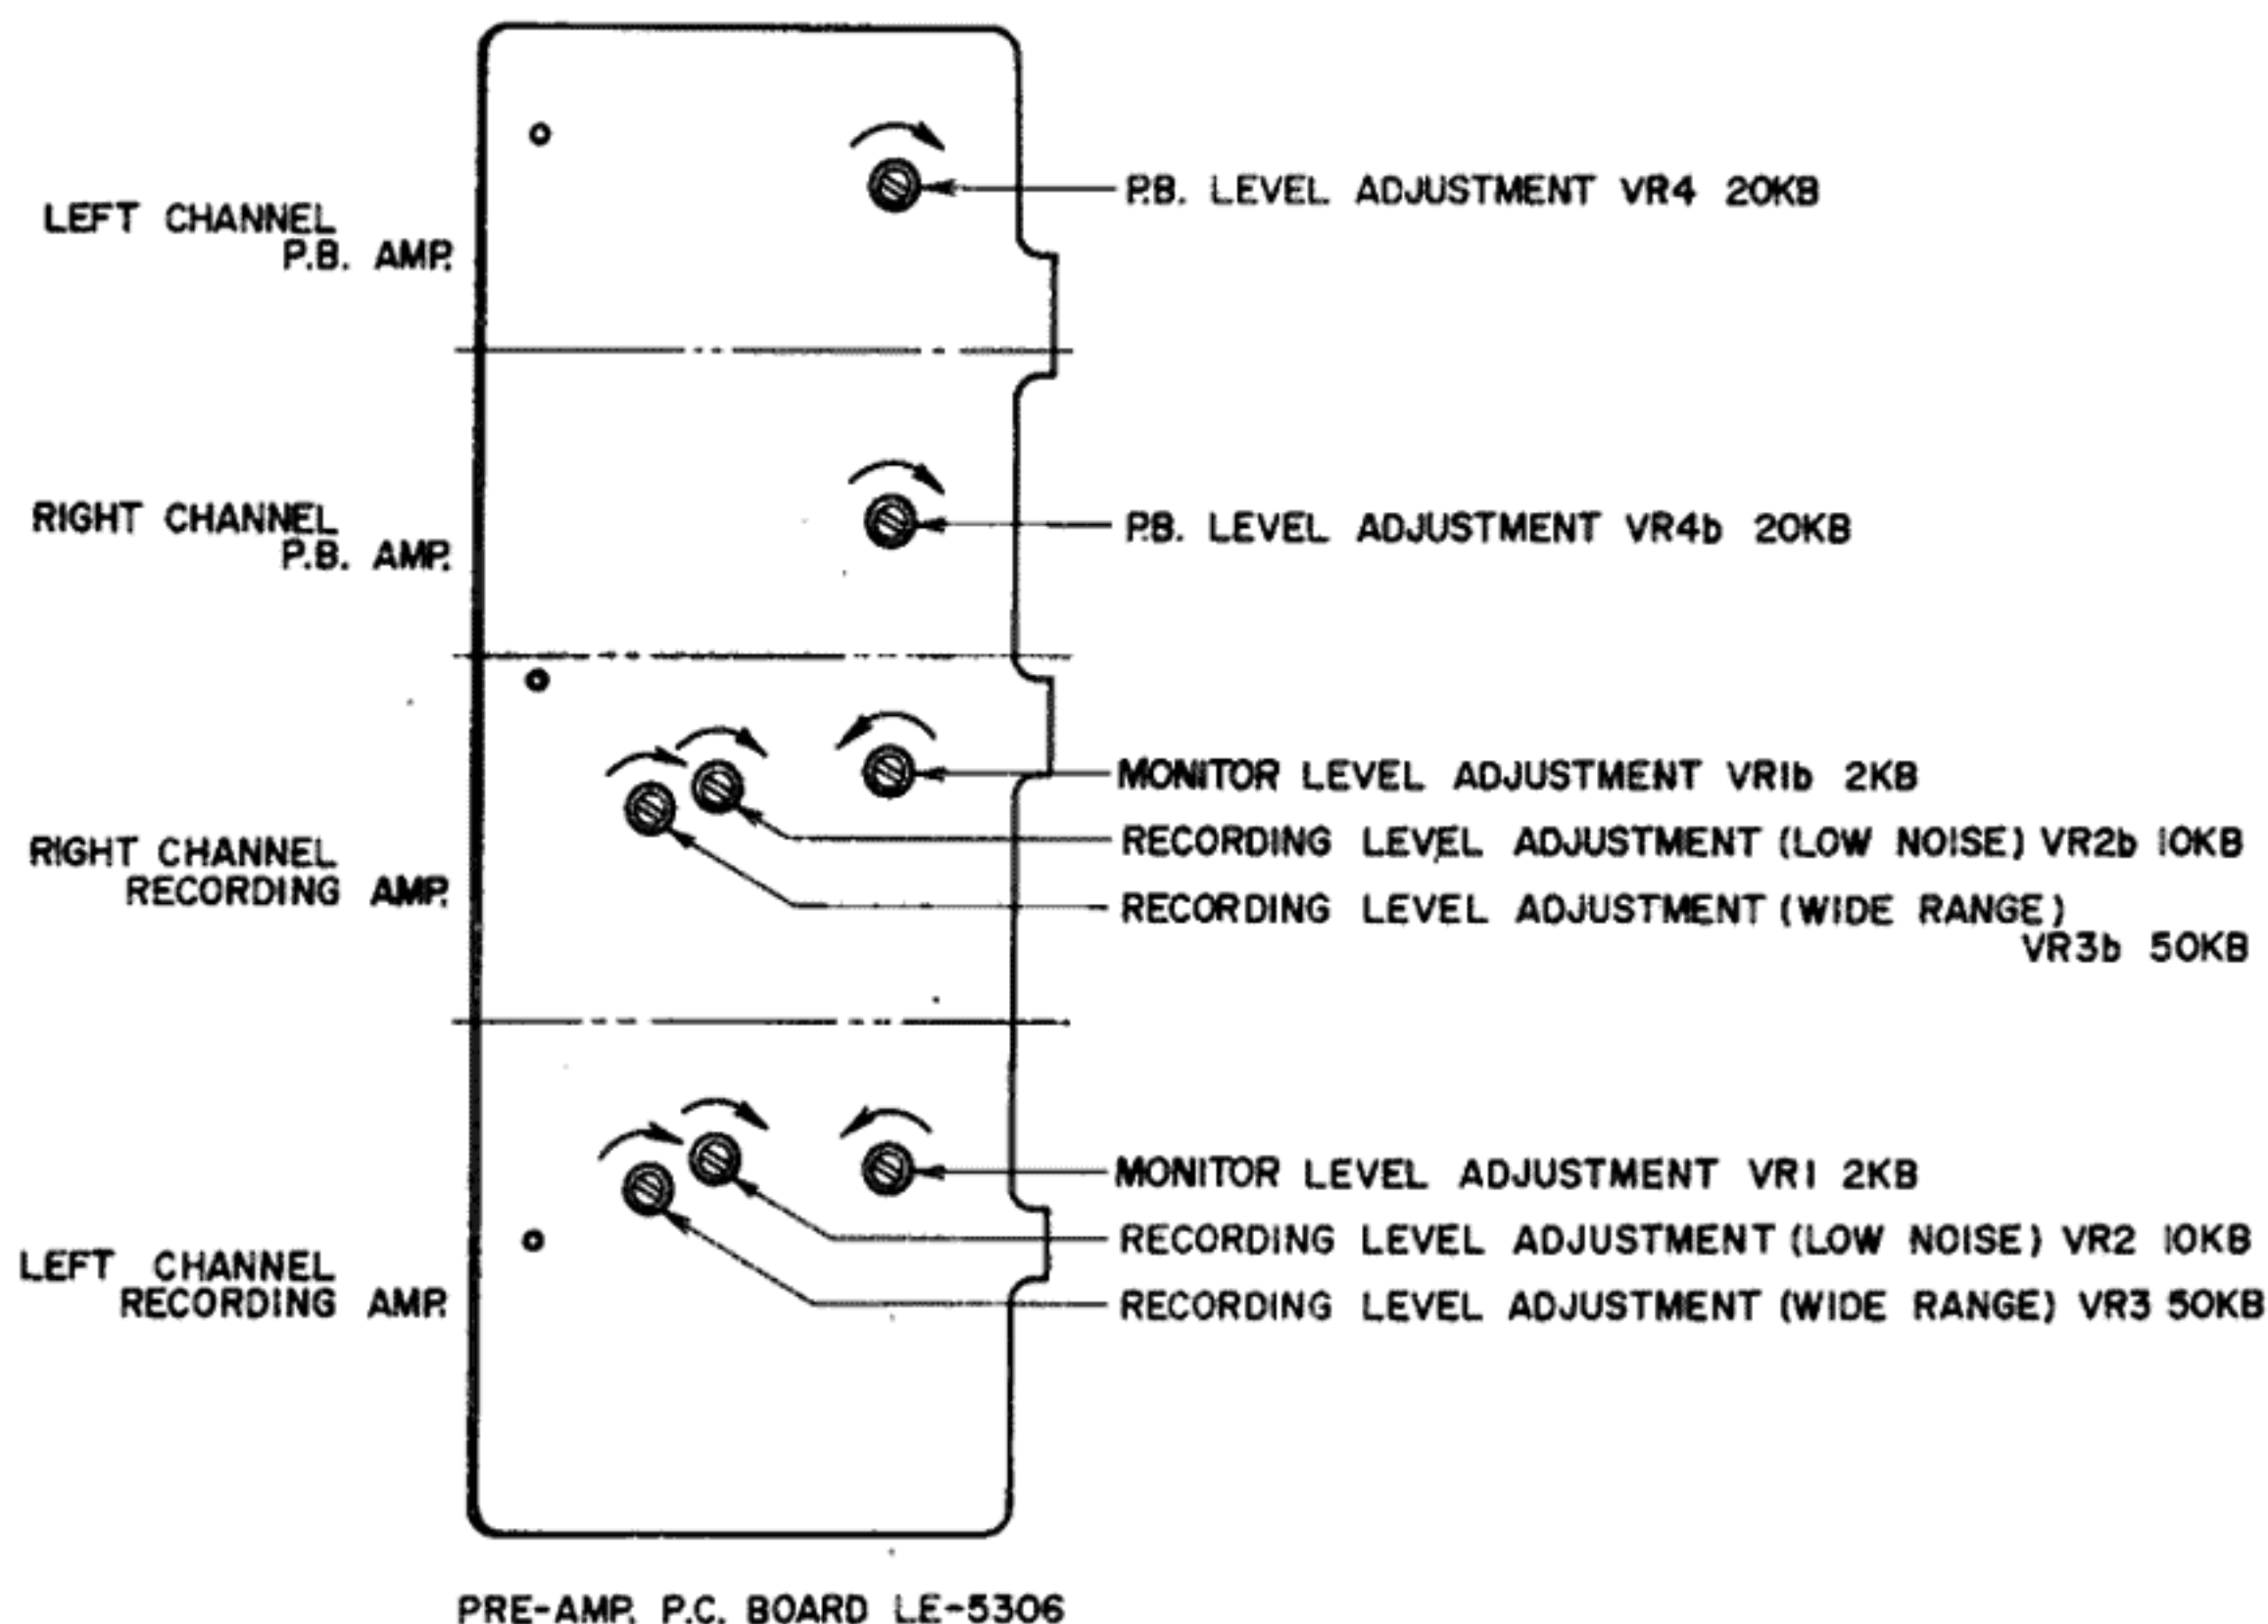

Fig. 20 PRE AMP. P.C. BOARD LE-5306
- 2) Adjust Pre-Amp. P.C. Board semi-fixed resistors VR4 20 kB (left channel) and VR4b 20 kB (right channel) shown in Fig. 20 to obtain a 0 dBm High Sensitivity V.T.V.M. indication.
(See Fig. 20)
- 3) Adjust Pre-Amp. P.C. Board semi-fixed resistors VR1 2 kB (left channel) and VR1b 2 kB (right channel) shown in Fig. 20 to obtain a 0 dBm High Sensitivity V.T.V.M. indication.
USING LOW NOISE TAPE (See Fig. 20)
USING WIDE RANGE TAPE (See Fig. 20)
- 4) Adjust Pre-Amp. P.C. Board semi-fixed resistors VR3 50 kB (left channel) and VR3b 50 kB (right channel) shown in Fig. 20 to obtain a -1 dBm High Sensitivity V.T.V.M. indication.